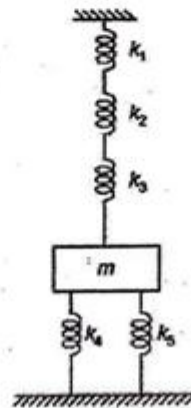

Figure 2.15
**EXAMPLE 2.8** Consider the system shown in Figure 2.15.